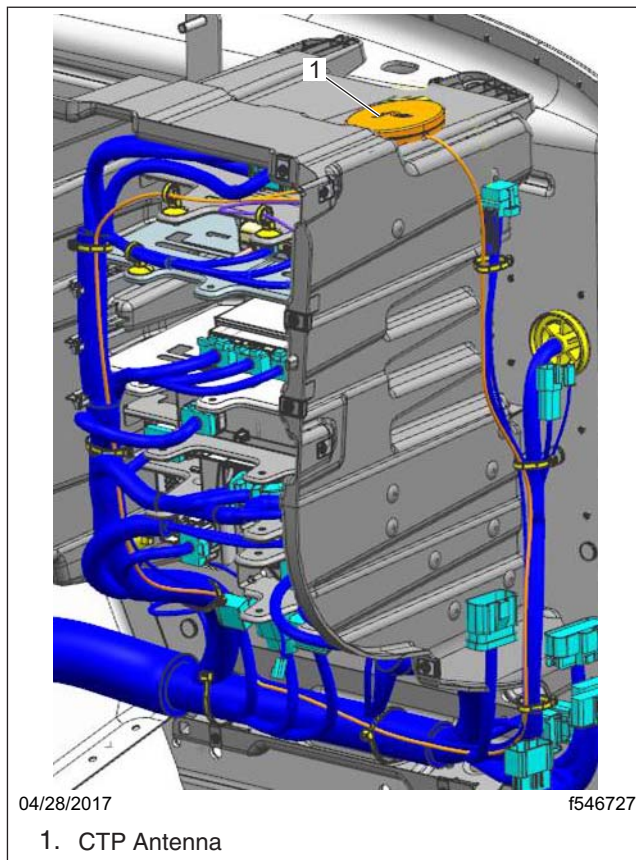

Fig. 6, Electronics Bay
19.3 Remove any tie straps that secure the antenna wire to the electronics bay harnesses. See Fig. 6.
4. Remove any tie straps that secure the antenna wire to the electronics bay harnesses. See Fig. 6.